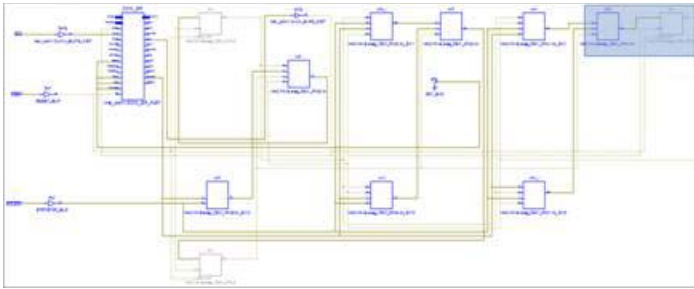

Figure 7-5: **Stopwatch (Tech1) Schematic**
2. On this sheet, select elements surrounded by the rectangle as shown in Figure 7-5.